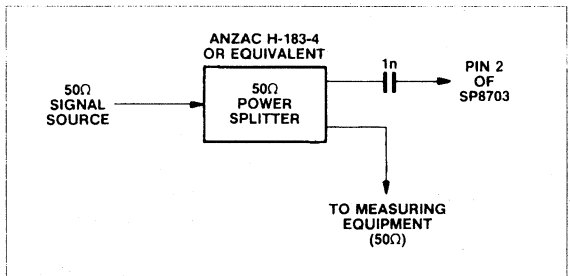

Figure 5 : Input voltage measurement method
2. See Fig.5 for input voltage measurement method